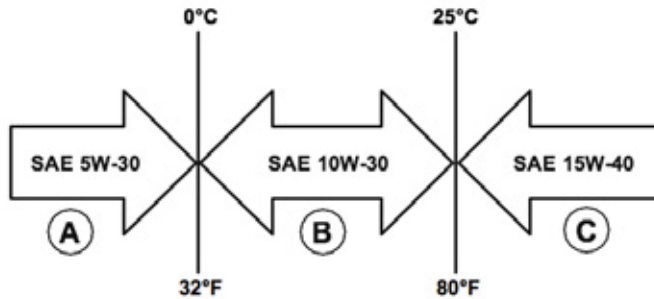

Figure 14: Recommended Oil
1. Only use the engine oil specified in Figure 14.